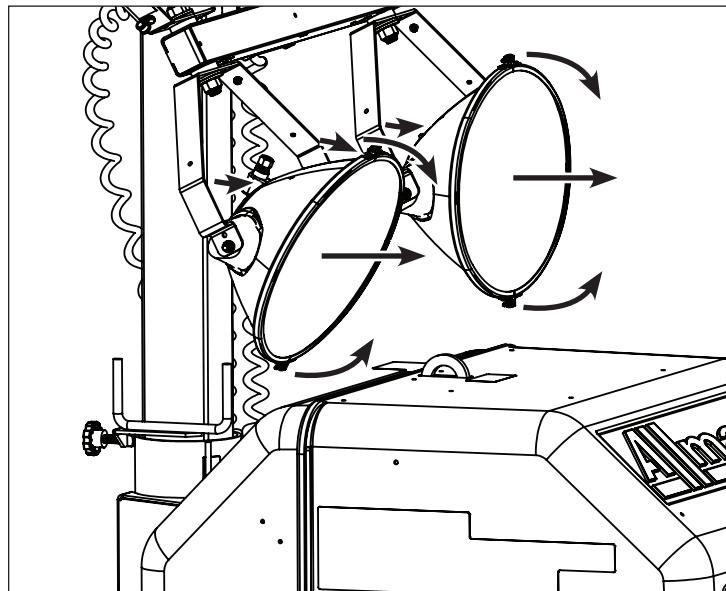

Figure 16
2. Manually adjust each fixture (up/down/left/right) to suit lighting needs. See Figure 16.
3. When lighting operations are complete, adjust the light fixtures to the transport position, with the fixtures facing straight back toward the rear of the light tower trailer. See Figure 16.